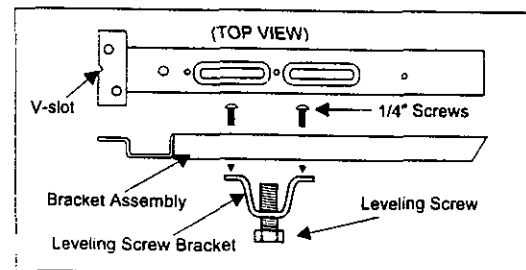

Fig 9
A. Assemble the leveling screw bracket to the bracket assembly as shown in (Fig 9), using two 1/4" screws provided. Install the leveling screws into each of the leveling screw brackets (This will require the use of an adjustable wrench)